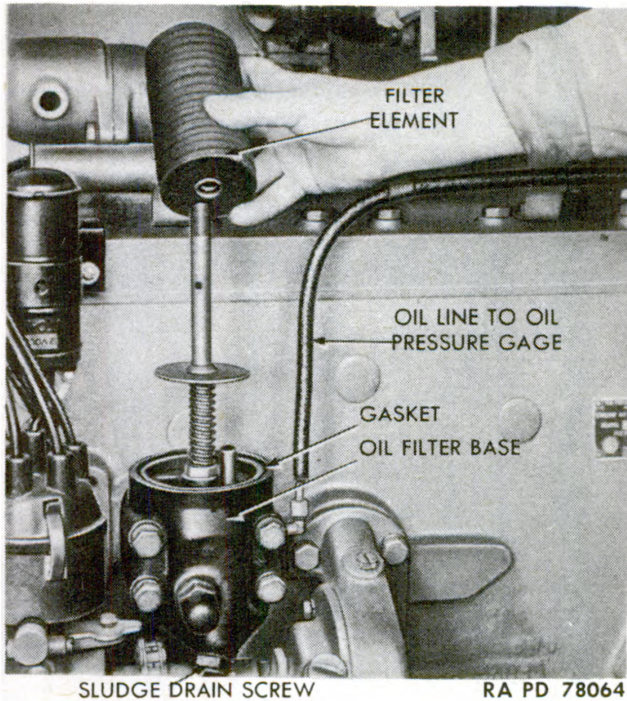

Figure 45 – Removing Oil Filter Element
d. Filter Element Removal (fig. 45).
- (1) Unscrew top fitting over shell and lift off gasket and shell.
- (2) Unscrew washer at top of filter element and lift out element as a unit.
- (1) Slide filter element on tube (fig. 45) and secure in position by screwing threaded washer down tube against filter.
- (2) Install shell and secure in position with top fitting. Use gasket under top fitting.
- (3) Start engine and check for oil leaks about oil filter. An oil leak may denote faulty gasket at top or bottom of filter shell, or improper assembling of shell.